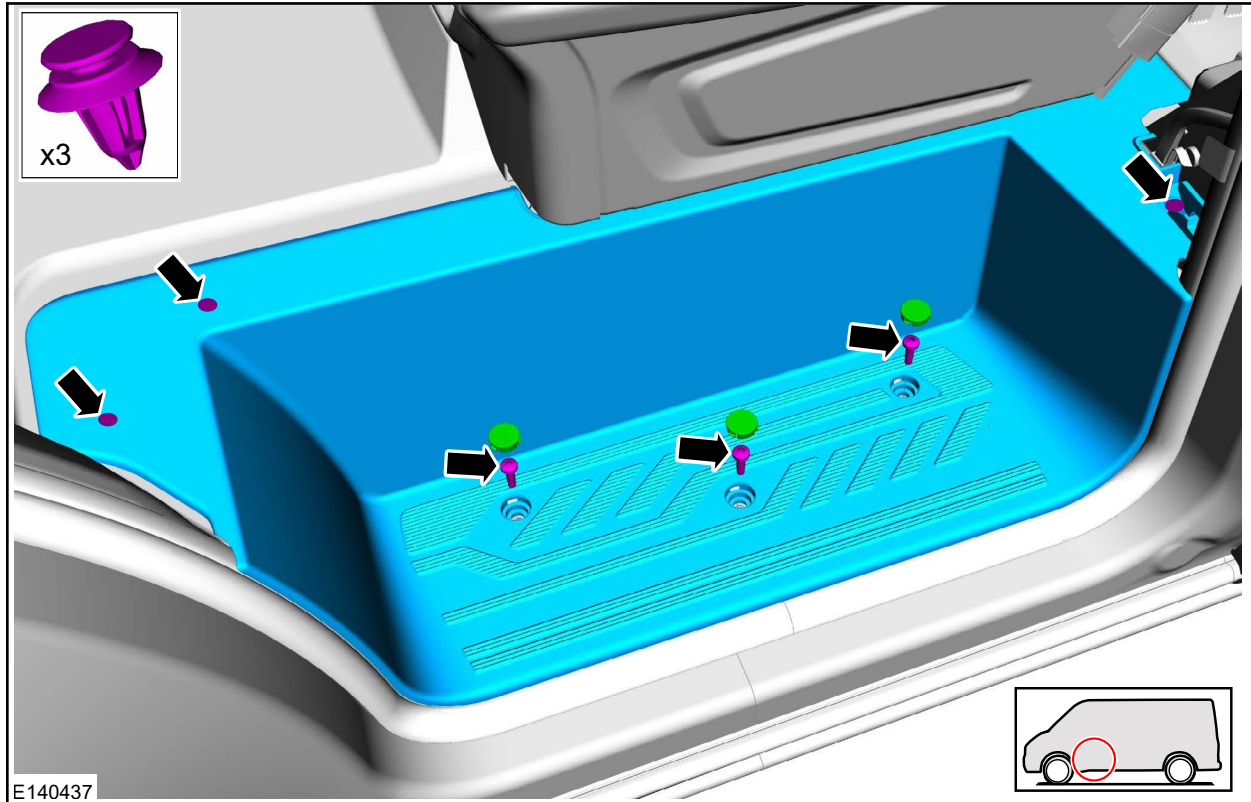

FIGURE 3
3. Remove the footwell trim panel by releasing the three clips, and the three footwell trim panel screw covers and screws. See Figure 3.